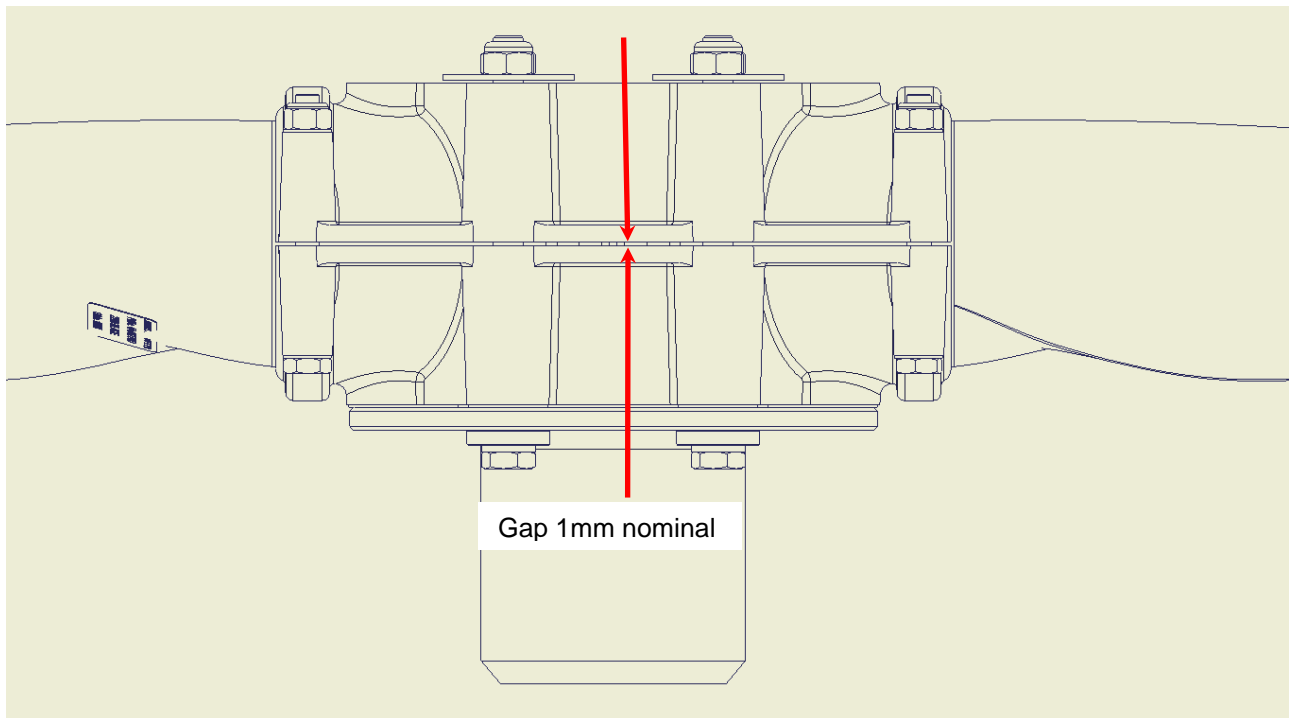

Figure 7 – Hub Gap (View from beside hub)
6. Ensure that the gap between the front and rear hubs is even on both sides (Figure 7).